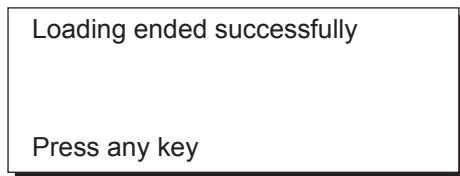

Figure 8-14
- 15) Press the **MENU ESC** key. When data is loaded successfully, The message shown in Figure 8-14 appears.